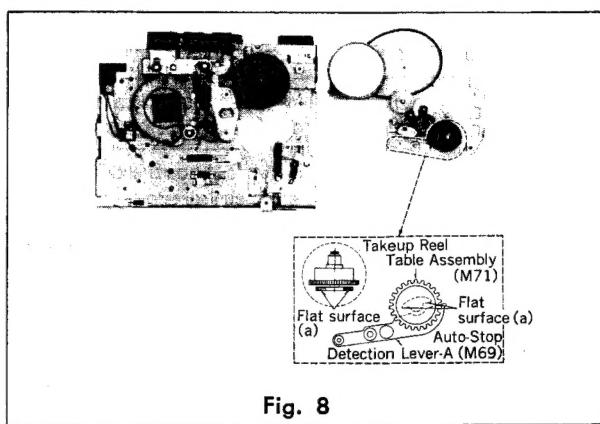

Fig. 8
- * Mount the takeup reel table assembly (M71) so that auto-stop detection lever-A (M69) matches flat surface (a) on the rear of the assembly, as shown in fig. 8.